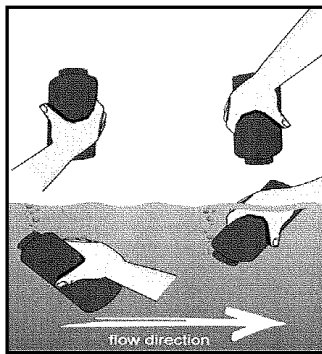

Figure 1: Grab Sampling
- Dip the bottle as shown in Figure 1. Exception: if bottle contains a preservative, do not invert the bottle, but tip it just enough so the preservative does not fall out.